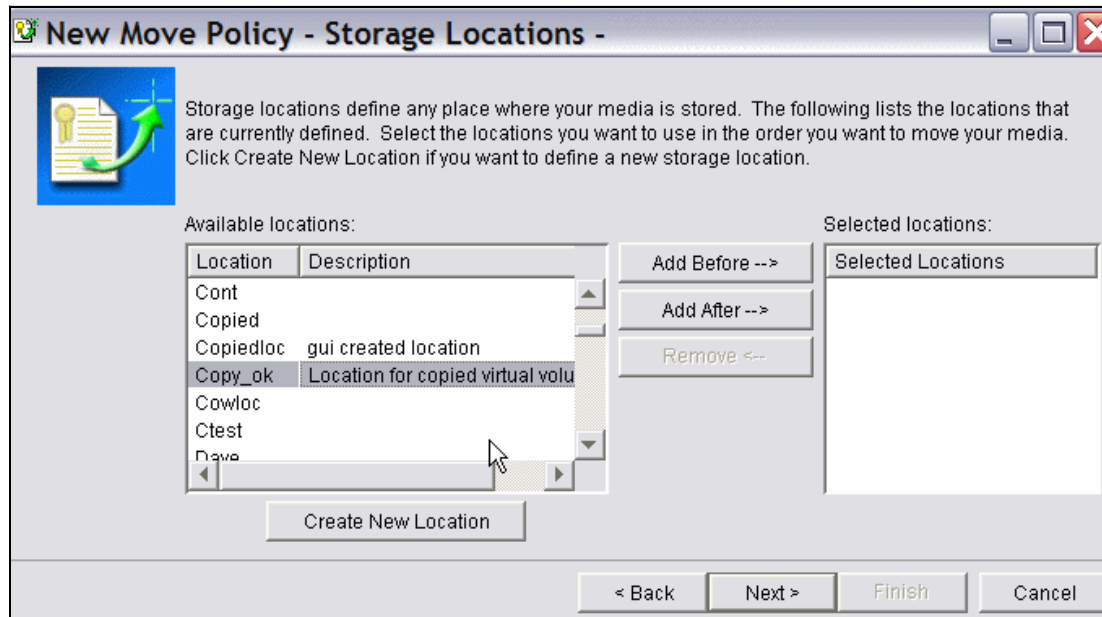

Figure 5-45 BRMS virtual move policy, add in location order
3. In the Storage Locations window shown in Figure 5-45 on page 233, select the location into which the volume will go into after being duplicated. In this scenario, it is **Copy\_ok**. Click **Add Before** or **Add After**, and then click **Next**.